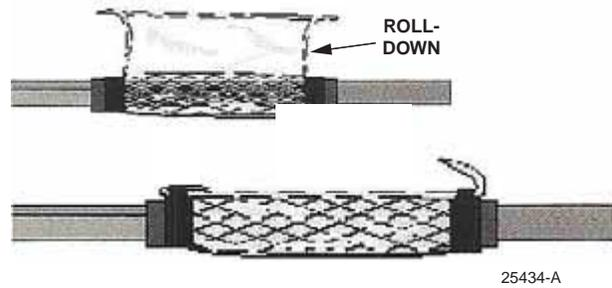

Figure 5
9. Pull out the top corners of the wrapper and roll the wrapper down onto the top of the encapsulated splice bundle. Twist one end of the wrapper tightly against the sealant collar and secure it in place with vinyl tape, leaving 1/2-inch of the sealant collar exposed. Fold the excess wrapper back over the tape, and secure it in place with an additional wrap of vinyl tape. Refer to Figure 5.